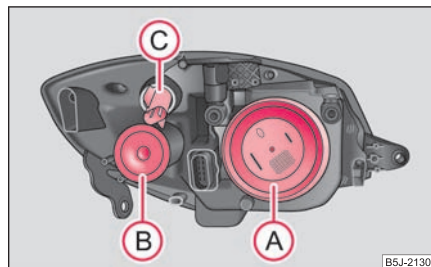

Fig. 212 Front headlight:
Positions of the light bulbs in the front headlight ⇒ page 222, fig. 212.
- Remove the protective cap (A) ⇒ page 222, fig. 212.
- Turn the lamp holder (C) to the left ⇒ page 222, fig. 212 and remove the lamp holder with the light bulb.
- Remove the protective cap (B) ⇒ page 222, fig. 212.